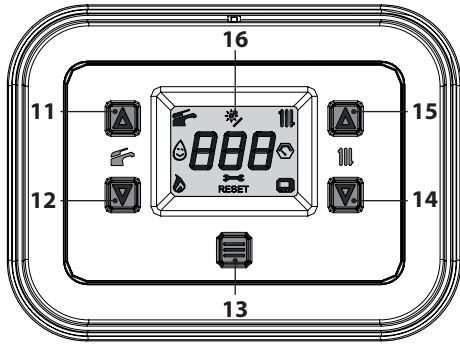

Figure 2.5
- Press button 13 for 1 second until the symbol  appears on the display (Figure 2.5).
The heating delivery temperature of the hot water can be adjusted using the buttons 14 (decrease) and 15 (increase) (Figure 2.5) to between a minimum of approx. 25°C and a maximum of approx. 80°C. The first time one of those buttons is pressed, the "set" value is displayed. The second time it is pressed this can be changed.
If the room temperature is not comfortable, you can increase or decrease the heating system delivery temperature by $\pm 15^{\circ}\text{C}$ using the 14 (decrease) and 15 (increase) buttons (Figure 2.5).
The domestic hot water temperature can be adjusted using the 11 (increase) and 12 (decrease) buttons (Figure 2.5) from a minimum of approx. 35°C to a maximum of approx. 60°C . The first time one of these two buttons is pressed, the "set" value is displayed. The second time it is pressed, the value can be changed.
Use the 11 (increase) and 12 (decrease) buttons (Figure 2.5) to change the temperature of the water delivered to the tank coil. The first time one of these two buttons is pressed, the set value is displayed; the second time it is pressed, this can be changed.